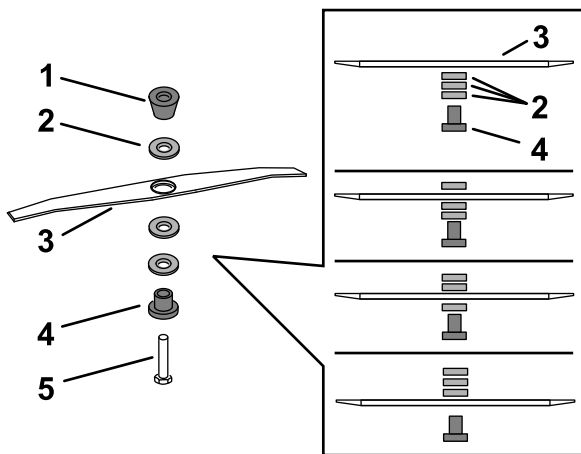

Figure 42
5. Use the wrench provided with the machine to remove the blade by rotating the blade bolt counterclockwise (Figure 42).